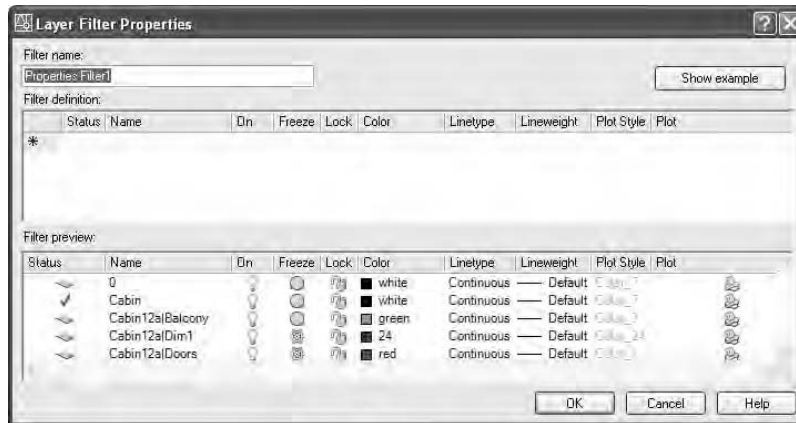

FIGURE 12.9: The Layer Filter Properties dialog box
4. Uncheck the Invert Filter check box; then click the New Property Filter button in the upper-left corner of the dialog box. This displays the Layer Filter Properties dialog box (see Figure 12.9) in which you can set up and manage your own filters.